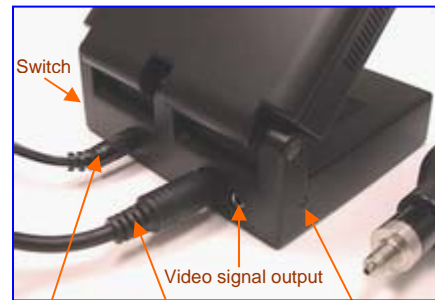

Figure 1
1. Plug the handset cable connector into the socket on the back of the monitor module (refer to Fig. 1).
**If you use AC power:** Plug the cable connector of the AC Adapter (i.e. the Charger) into the socket as shown in Fig. 1. *Once this AC adapter is plugged in, the battery is disconnected from the system.*